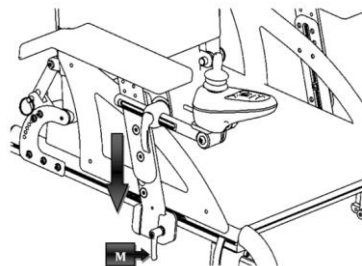

Figure 10
As shown in Figure 10 put the armrest into the holder and tighten the lever (M).